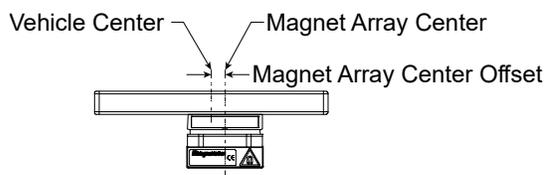
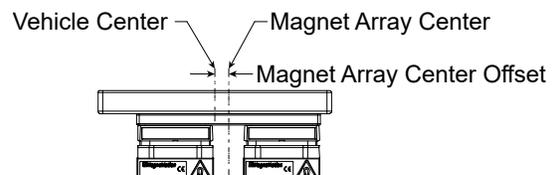
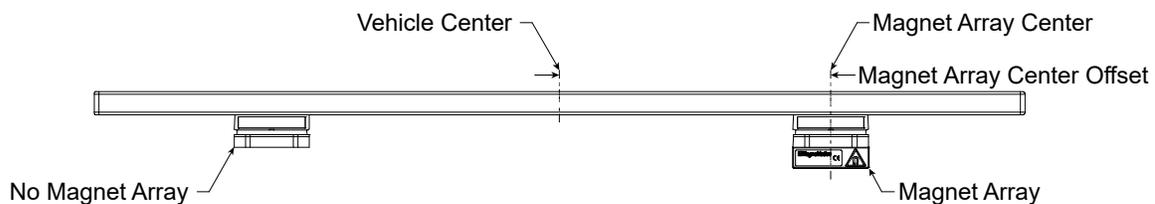
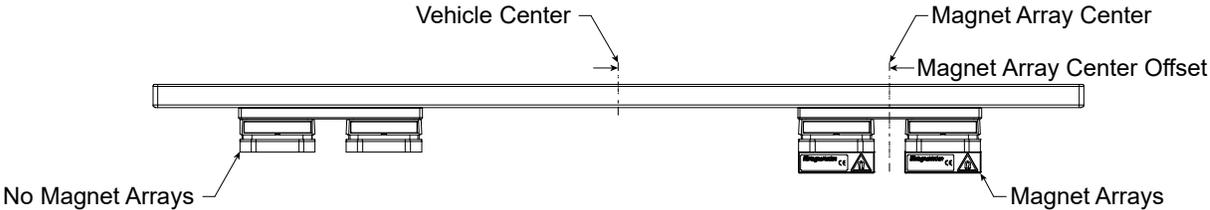

Figure 1: Array Offset Using One Puck
Figure 2: Array Offset Using Tandem Puck
Figure 3: Array Offset Using Two Single Pucks
Figure 4: Array Offset Using Two Tandem Vehicles
This document describes changes to the MagneMover® LITE Configurator utility to provide improved support of the magnet array offset configuration parameter. This change allows offsetting the center of the vehicle from the center of the magnet array for a single puck as shown in Figure 1. This change also allows offsetting the center of the vehicle from the center of the two magnet arrays in a tandem puck as shown in Figure 2. When there is a large offset between the center of the magnet array and the center of the vehicle, a second puck without magnet arrays can be used to support the vehicle as shown in Figure 3 and Figure 4.
For a small magnet array center offset, the puck can support the vehicle without tipping as shown in Figure 1 and Figure 2. If the offset is large enough to cause the vehicle to tip, a second puck without a magnet array can be added to either the front or back of the vehicle to provide additional support for the vehicle as shown in Figure 3 and Figure 4. When adding a second puck to the vehicle, both pucks must be connected to the vehicle through pivots to allow each puck to rotate independently under the vehicle while moving through curves. Make sure that the supporting puck does not have a magnet array.
- **Magnet Array Center Offset** – When the **Vehicle shape** is set to linear, this offset is the distance from the physical center of the vehicle to the physical center of the propulsion magnet array in meters (+/- 750 mm). A positive value specifies the magnet array is downstream from the center of the vehicle (that is, at the vehicle front). A negative value specifies the magnet array is upstream from the center of the vehicle. See Figure 1 through Figure 4. When a tandem puck is being used, this offset is the distance from the center of the vehicle to the mid-point between the two magnet arrays. When the **Vehicle shape** is set to rectangular, this offset is disabled. The default is 0.0 m.